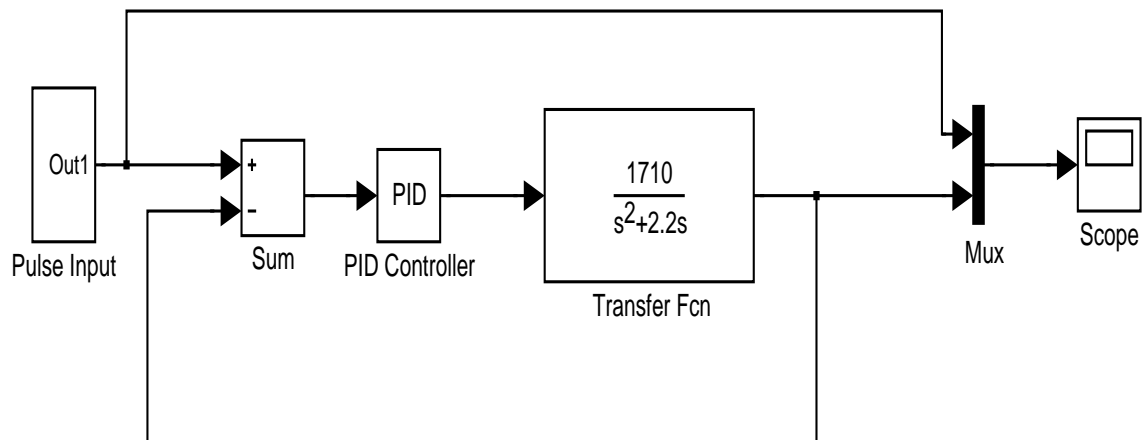

Figure 1: Simulink model of motor gear drive system
2) Model Building: Figure 1 shows a Simulink model which represents the motor gear system in the Controls Laboratory, with a PID controller implemented in feedback around it. Launch the simulink library browser from within Matlab by using the button or typing *simulink*. Then open a new model (using button or pull down menus), and build a copy of the above model. This is achieved by dragging components from the library to the model and connecting them using the mouse. Double clicking a box then allows you to edit the contents, such as entering values for the transfer function (as shown). For the PID block set the proportional gain to 0.05, and the integral and derivative gains to zero.